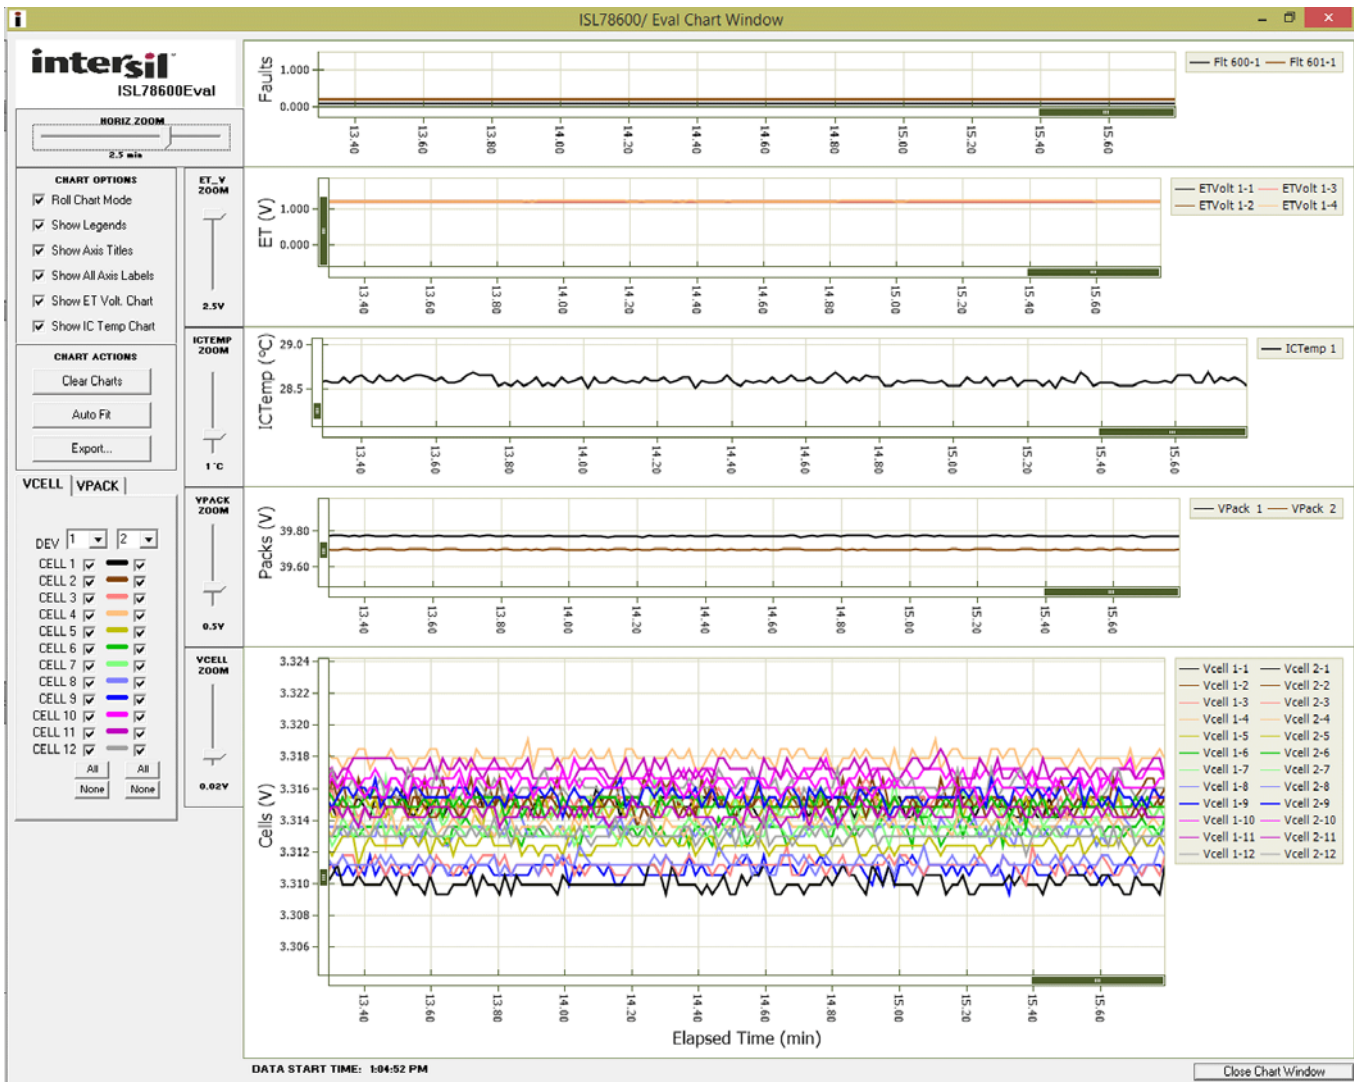

FIGURE 7. CHART WINDOW
- Use the “Show Chart” button to view various voltages and status in real time (see Figure 7 on page 9).